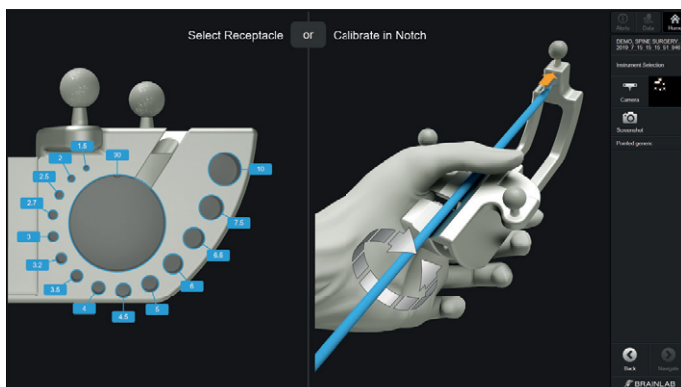

Fig. 2
- ▶ Prior to each use, calibrate and verify the accuracy of the navigated instruments with the Brainlab instrument calibration matrix rev. 4, see Fig. 2.